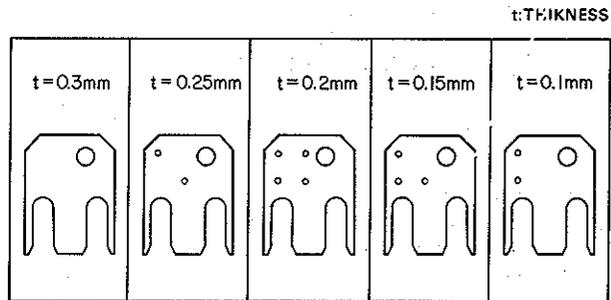
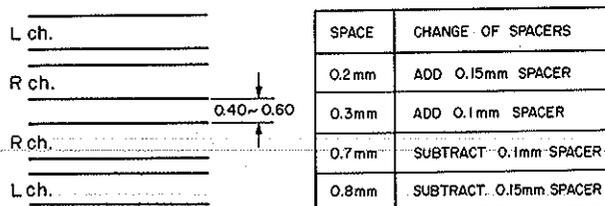

Fig. 1-7
Fig. 1-9
(1) Load a blank tape, Reference  $\text{CrO}_2$  (DA09009A). Set the TEST TONE SW to the ON position, the TAPE SELECTOR SW to the  $\text{CrO}_2$  position, and the MONITOR SW to the Tape position. Set to Record mode and adjust record head azimuth alignment screw D until the alignment beacon started flickering alternately. Record the same portion of the both A and B sides of the tape.
(2) Immerse the recorded tape into a magnetized developing solution. In turn, check to insure that the recording head tracks across the center are separated by space of 0.4 to 0.6mm as illustrated in Fig.1-9. If not, select a RH spacer having suitable thickness referring to the table in the Fig. 1-7.